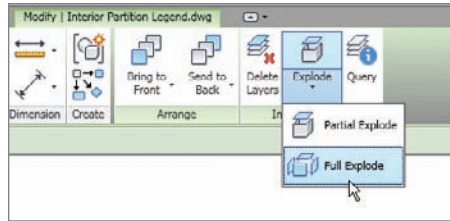

FIGURE 11.58 Click the Full Explode button on the Modify | Interior Partition Legend.dwg tab.
2. On the Modify | Interior Partition Legend.dwg tab, click **Explode** > **Full Explode**, as shown in Figure 11.58.